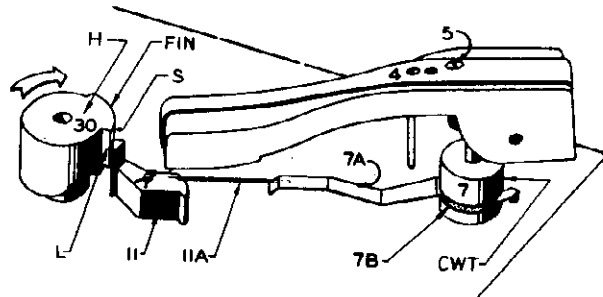

Fig. 1
As indicated in Fig. 1 when the pickup arm (4) moves toward the center of the record the weight (7) and the felt washer (7B) cause the Velocity trip arm (7A) to move with it. The arm in turn pushes the tail end (11A) of pawl (11). Each time the hub "H" of the turntable rotates, the cam shaped lug "S" pushes the pawl (11) to the "restore" position. This prevents the pawl engaging the lug "L" to start the change cycle. Whenever the pawl (11) is pushed quickly, it engages the lug "L" before the cam can push it back and the mechanism goes through its change cycle. The quick push is provided by the pickup arm when it follows the "velocity" grooves in the center of the record.